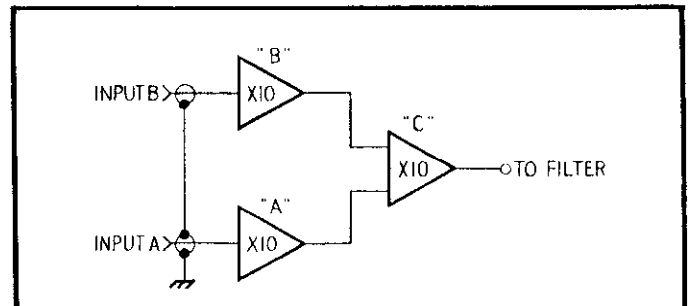

FIGURE 6. Differential Mode.
**c. Differential Mode (A-B INPUT).** In this mode the input amplifiers are connected as separate amplifiers which are summed differentially as shown in Figure 6. The output is a function of A-B times the gain of the amplifier.